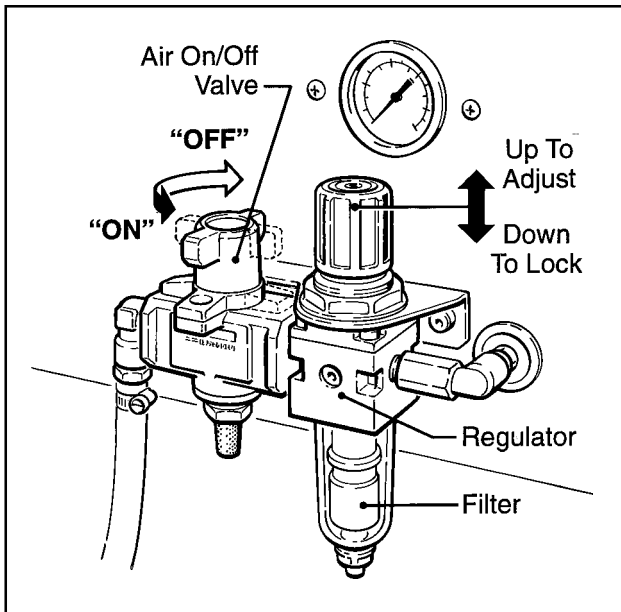

Figure 3-3 – "On/Off" Valve/Regulator/Filter
- ② **Main Air "On/Off" Valve/Pressure Regulator/Filter** – Figure 3-3